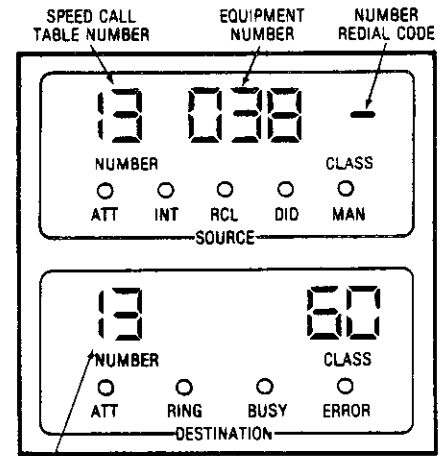

Fig. 243-2 Typical Entry Displays
2. After digit entries are made (e.g. Step (4)), the bell may ring and an error code may appear in the DESTINATION display when the key in the next sequence is pressed. In this event refer to Table 243-1, and repeat the sequence, i.e. the relevant function key and its digit entries, in order to correct the previous entry. Fig. 243-2 shows a typical error code entry.